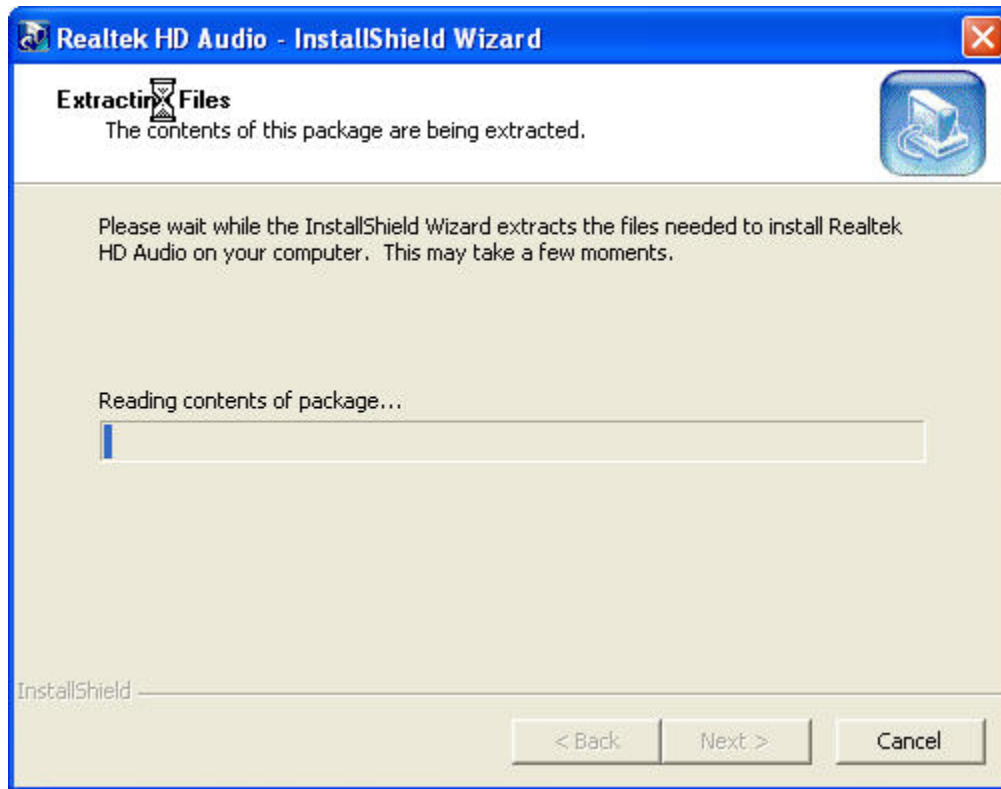

Figure 7-20: HD Audio Driver Setup Extracting Files
Step 4: Once the **WDM_R140** icon is double clicked, the contents of the installation package are extracted. See **Figure 7-20**.